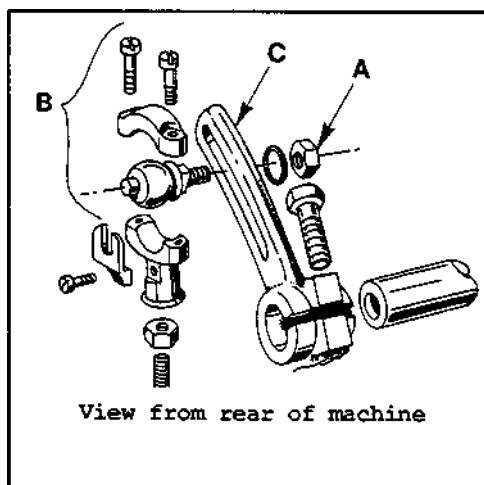

Fig. 17
loosen ball joint nut (A, Fig. 17). Move ball joint (B) to the rear of driving shaft segment (C) to produce less SPI (a longer stitch length) or move the ball joint to the front to produce more SPI (a shorter stitch length). Tighten nut (A) after each adjustment and check for final desired stitch length.